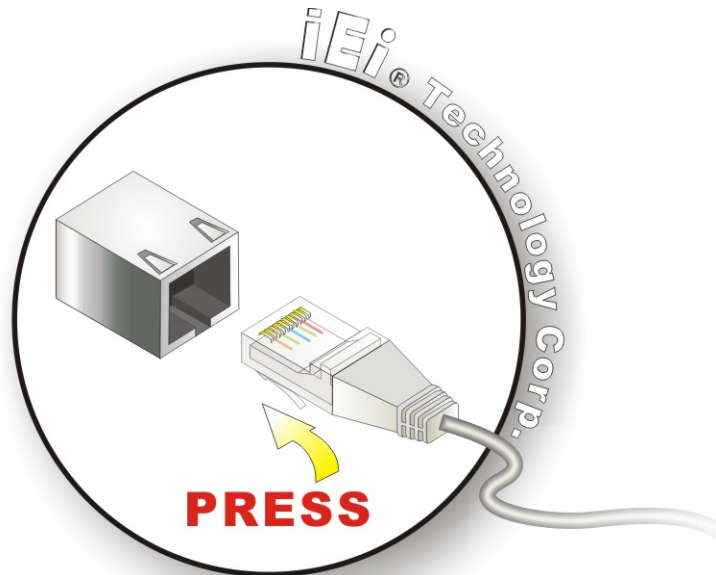

Figure 2-20: LAN Connection
Step 2: Align the connector. Align the RJ-45 connector on the LAN cable with one of the RJ-45 connectors on the bottom panel of the AFL-08B-N270. See **Figure 2-20**.